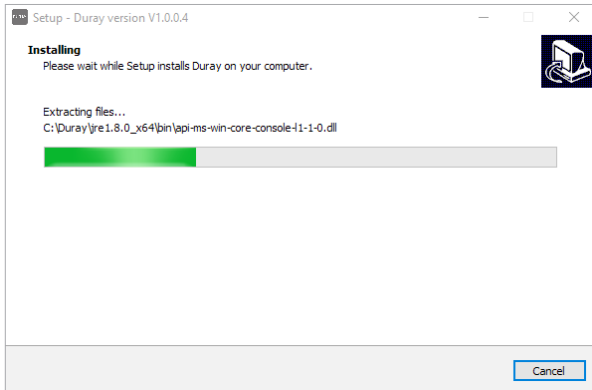

Figure 7
f) After clicking the “Install” button, the program starts to install. The user can wait for the installation to complete, as shown in Figure 7: